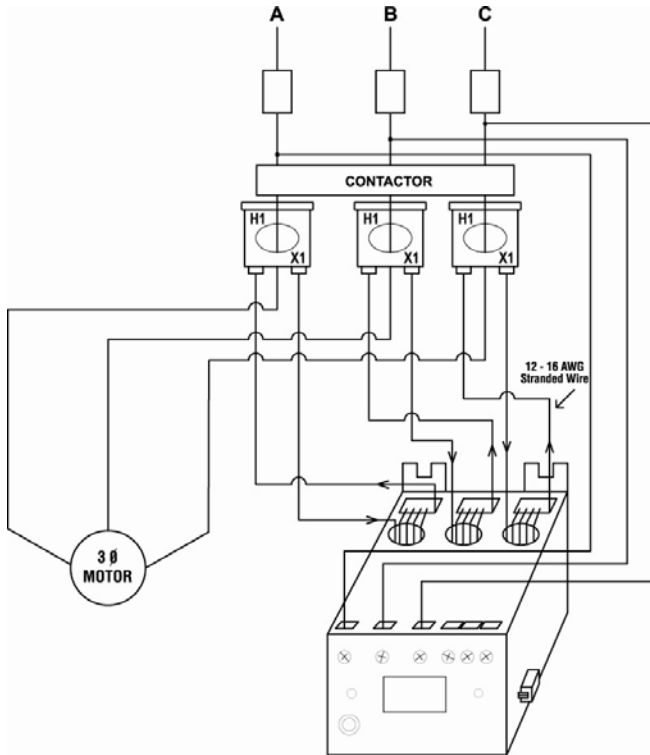

Figure 3: Typical Wiring Using External CTs¹
- c) For amperages greater than 90 amps, external CTs (current transformers) are required. Littelfuse recommends using CTs with terminal connections for easier installation. All CT secondaries must make five passes through the round holes on the MotorSaver®Plus. See Figure 3 for a typical wiring diagram using external CTs.